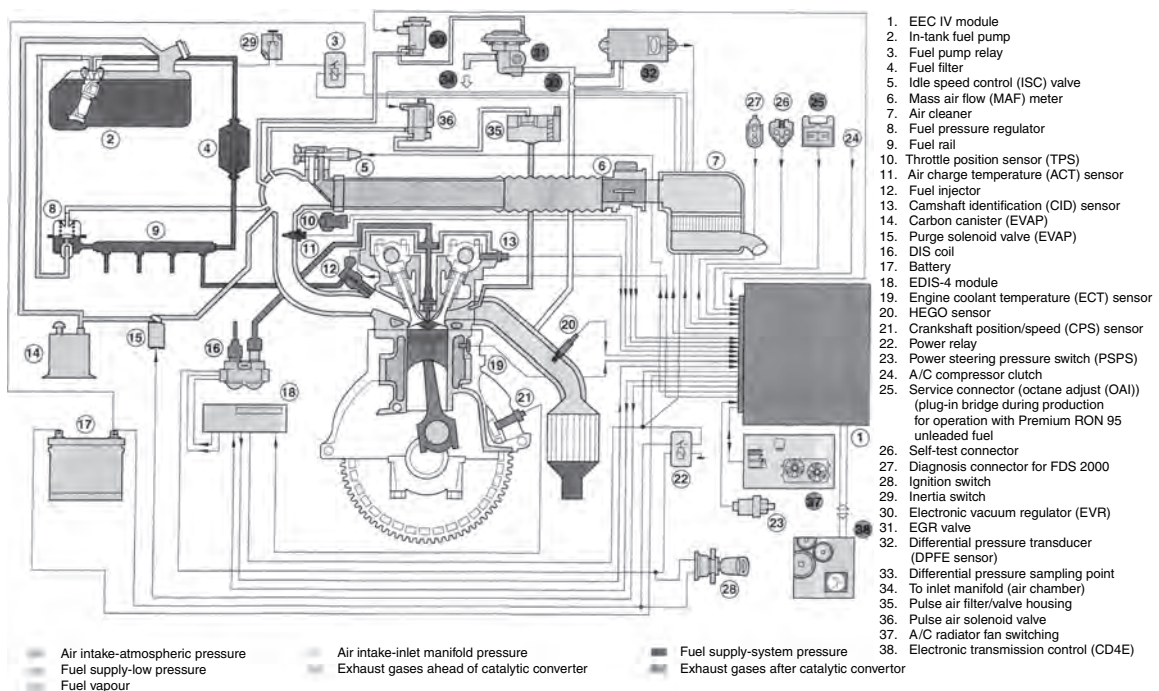

Fig. 3.20 A multi-point petrol injection system
In the multi-point injection system shown in Fig. 3.20 there is one petrol injector (number 12 in the diagram) for each cylinder of the engine.
In the system shown in Fig. 3.20, the air flow is measured by the hot-wire type of mass air flow meter. The control computer receives the signal from the air flow meter and uses this signal together with those from other sensors such as engine speed, engine coolant temperature, throttle position, etc., to determine the length of time of the injection pulse.
Engine management systems are designed to make the vehicle comply with emissions regulations as well as to provide improved performance. This means that the number of sensors and actuators is considerably greater than for a simple fuelling or ignition system. The system shown in Fig. 3.20 is fairly typical of modern engine management systems and selected items of technology from the list are picked out to give them closer attention, so that the aim of 'teasing out' features that they have in common with other components is realised. The ignition system also forms part of an engine management system is covered separately in Chapter 10. The intention here is to focus on some of the components in Fig. 3.20. The first component to note is the oxygen sensor at 20. This is a heated sensor (HEGO) and the purpose of the heating element is to bring the sensor to its working temperature as quickly as possible. The function of the HEGO is to provide a feedback signal that enables the ECM to control the fuelling so that the air-fuel ratio is kept close to the chemically correct value where  $\text{Lambda} = 1$ , this value enabling the catalytic convertor to function at its best. Oxygen sensors are common to virtually all modern petrol engined vehicles and this is obviously an area of technology that technicians need to know about. The zirconia type oxygen sensor is most commonly used and it produces a voltage signal that represents oxygen levels in the exhaust gas and is thus a reliable indicator of the air-fuel ratio that is entering the combustion chamber. The voltage signal from this sensor is fed back to the control computer to enable it to hold  $\text{Lambda}$  close to 1.
Two items in Fig. 3.20, the electronic vacuum regulator at (30) and the exhaust gas recirculation (EGR) valve at (31), play an important part in this and many other engine management systems and they warrant some attention. In order to reduce emissions of NOx it is helpful if combustion chamber temperatures do not rise above approximately 1800°C, because this is the temperature at which NOx can be produced. Exhaust gas recirculation helps to keep combustion temperatures below this figure by recirculating a limited amount of exhaust gas from the exhaust system, back to the induction system, on the engine side of the throttle valve and then onwards into the combustion chambers. The principle of operation is described in the details on Fig. 3.23.
In the type of engine management system shown in Fig. 3.20, engine idle conditions are controlled by the computer (EEC IV module). In response to sensor signals, the computer adjusts the idle control valve and alters the ignition setting to maintain stable engine operation. Over a period of time, component wear may cause the EMS computer to adopt new settings for idling speed and ignition timing. Should this occur and new components, such as an idle control valve, be fitted, it will be necessary to use a manufacturer's dedicated equipment to re-set the computer memory so that correct engine idling is restored.